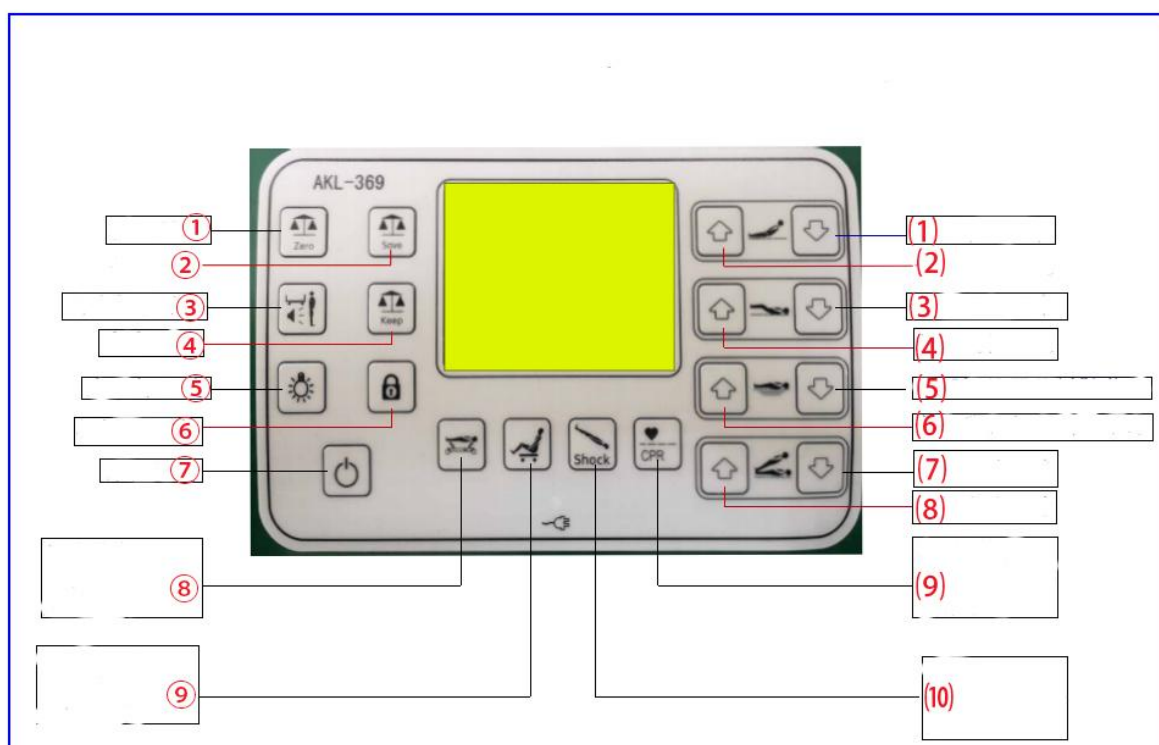

Figure 2 Functional Diagram of the Controller
5. Hold the hand controller and operate according to the icons on the panel of the hand controller (see Figure 2).